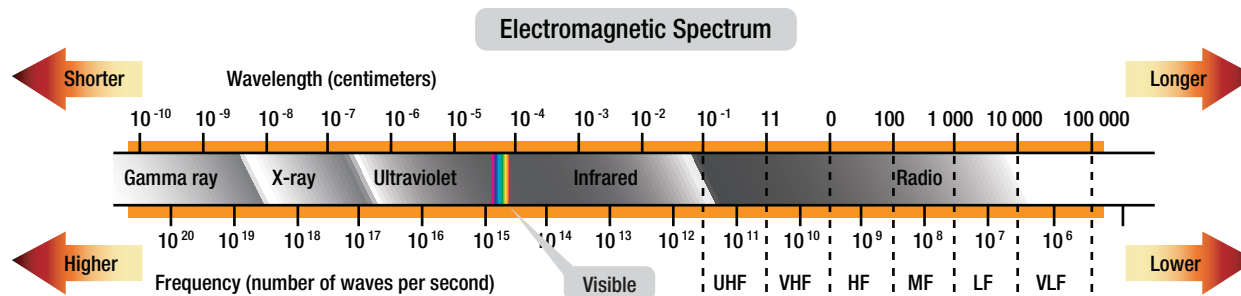

Figure 4-1. Radio waves are just some of the electromagnetic waves found in space.
Light is a form of electromagnetic radiation. It is part of the wide spectrum of electromagnetic radiation that surrounds us at all times. Visible light is a relatively small part of the spectrum. (*Figure 4-1*)
The wavelength of visible light is usually measured in a unit called the Angstrom (A):  $1\text{A} = 10^{-10}\text{m}$ . Various colors of visible light have characteristic wavelengths. They also have characteristic frequencies since the frequency of light  $\times$  wavelength = speed of light. With symbols this is written  $f\lambda = c$ . *Figure 4-1* lists various colors of light and their respective wavelengths.